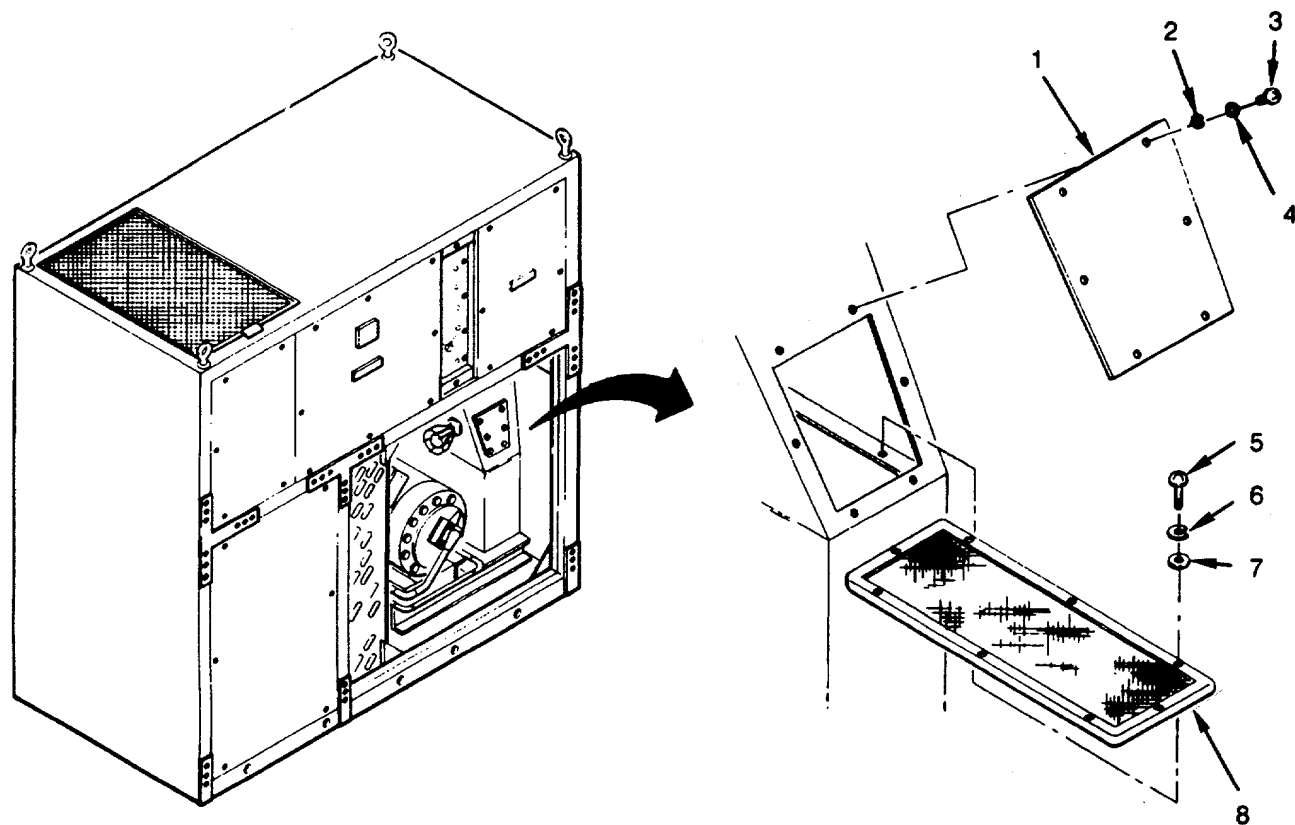

Figure 4-44 Circulating Air Out RFI Filter
1. Remove six screws (3), lockwashers (2), and flat washers (4) (see Figure 4-44).
2. Remove cover (1).
3. Remove eight screws (5), flat washers (7), and lockwashers (6).
4. Remove filter (8).